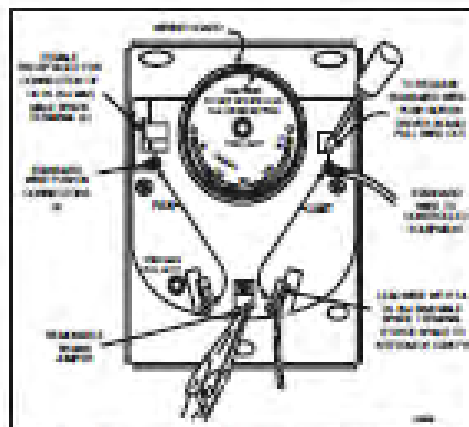

Fig. 8 - Location of wiring connections.
3. Push male flag connector directly into the female receptacle. Make sure that the flag is forced to the bottom of cavity and wire is in the channel (Fig. 8).